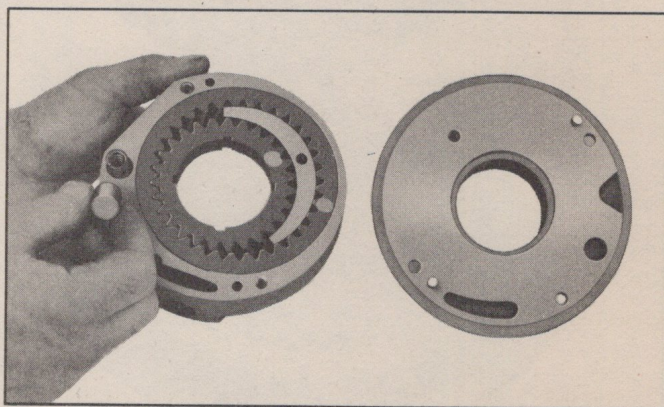

Fig. 161—Removing Front Pump Relief Valve and Spring
6. Remove front pump relief valve and spring from pump body (Fig. 161).